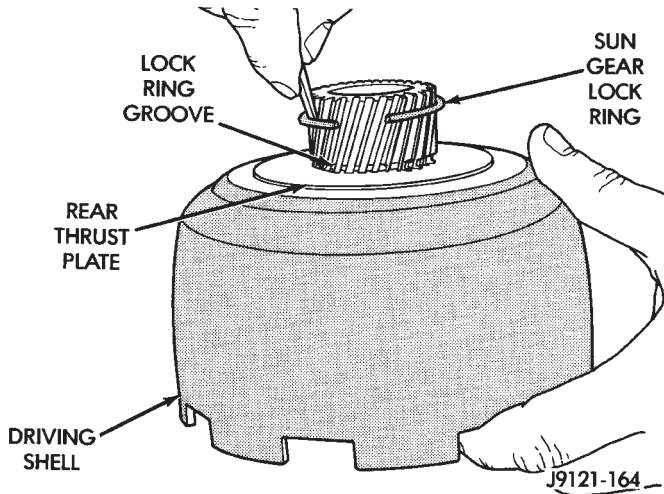

Fig. 159 Installing Sun Gear Lock Ring
(11) Align rear thrust plate on driving shell and install sun gear lock ring. Be sure ring is fully seated in sun gear ring groove (Fig. 159).